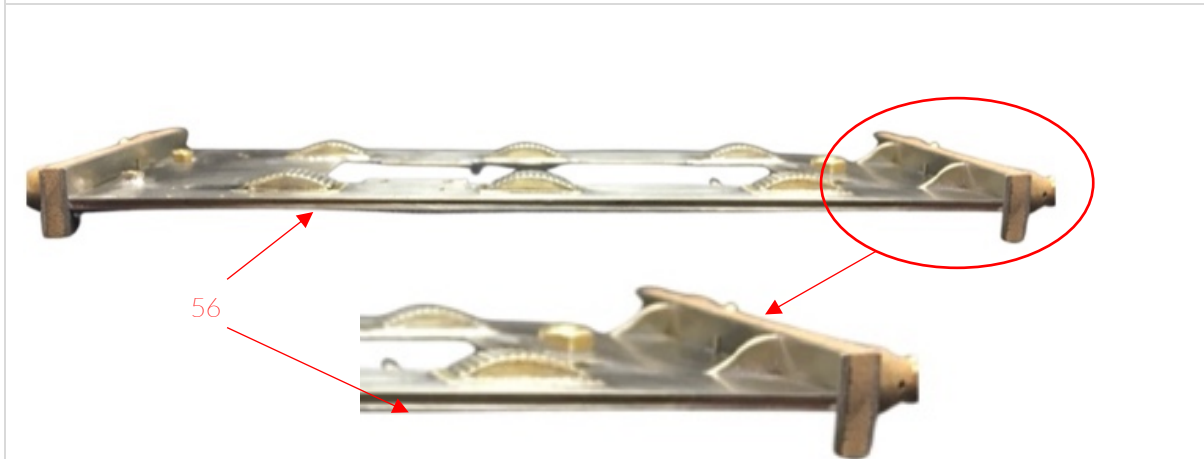

Fig 2.5 - Valances
2.5 – Valances. Locate the valances (56) in the half-etch groove on the underside of the footplate between the two buffer beams. Solder from behind. (Fig 2.5)